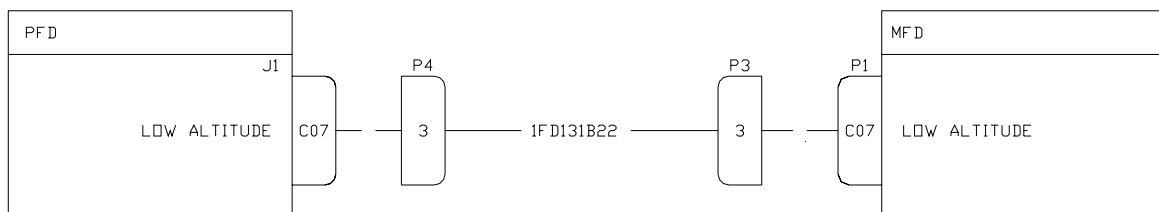

Figure 6 LOW ALTITUDE Interconnect Wiring
7. Add a wire to the EFIS Interconnect Cable as shown in Figure 6.